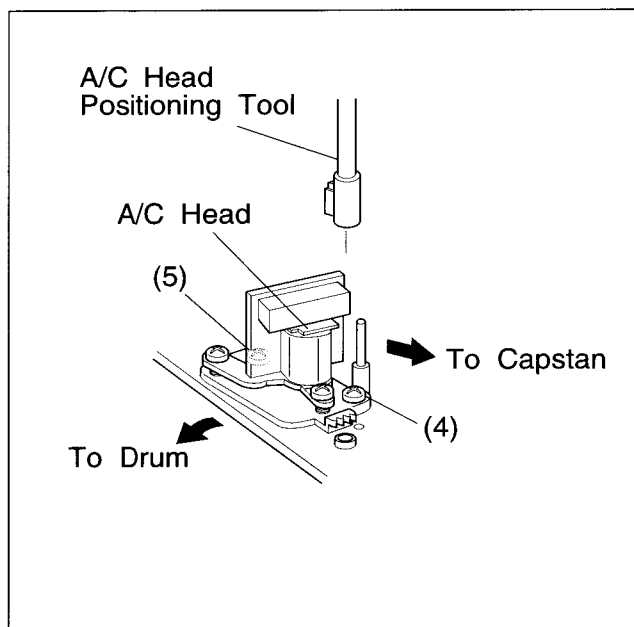

Fig. 1-7-6
- (1) Connect the oscilloscope to PB FM on the MAIN board. Use D.FF on the MAIN board as a trigger.
- (2) Playback the SP stairstep portion of the alignment tape [MHP, MHPE].
- (3) Set the neutral manual tracking position by pressing the **///** button on the remote controller or TV PROG "-" and "+" buttons simultaneously.
- (4) If adjustment is required, slightly loosen screws (4) and (5).
- (5) Set A/C head positioning tool on the A/C head adjusting boss as indicated in Fig. 1-7-6.